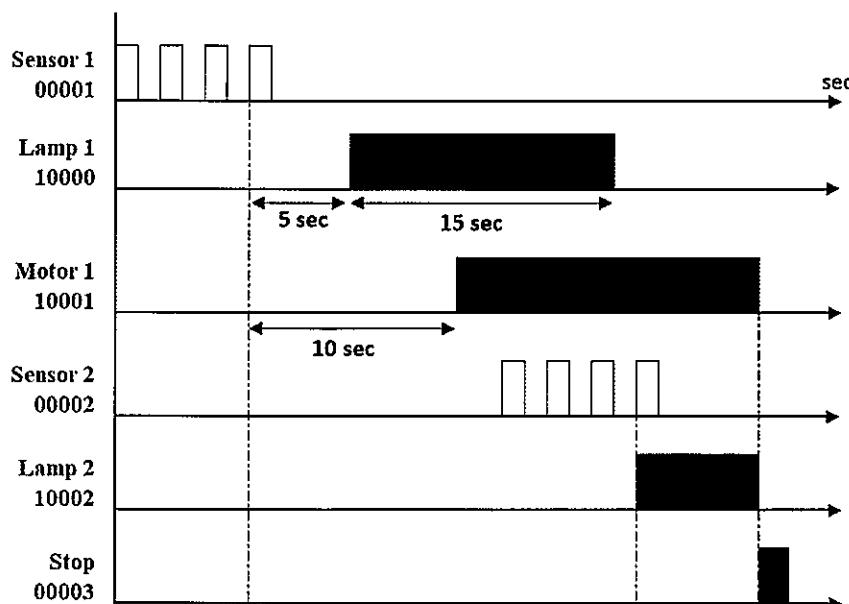

Figure B1/Rajah B1
- CLO1 Timer and counter instructions are fundamental components of PLC programming for continuous operation. By referring to Figure B1, transfer the timing diagram into a PLC ladder diagram and next to the mnemonic code by using a timer and counter instructions to implement it.